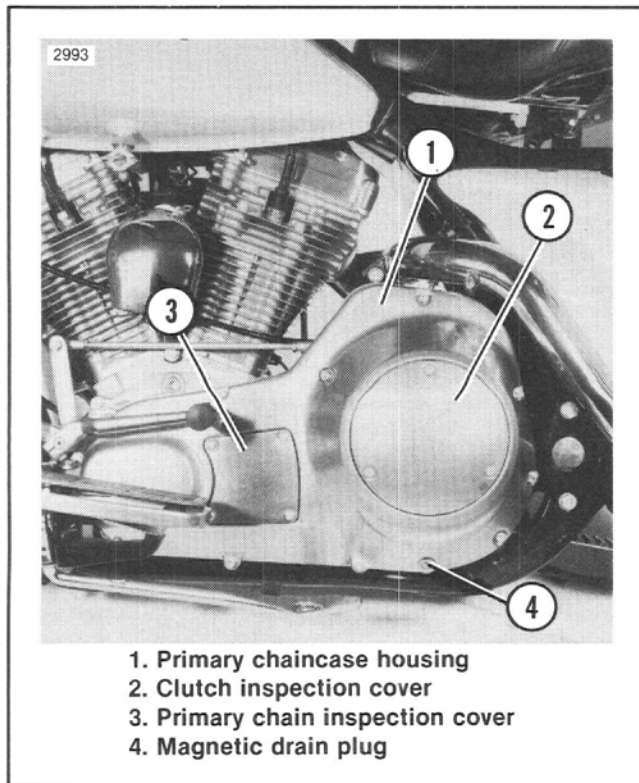

Figure 34. Primary Drive Housing
2. See Figure 34. Remove screws and washers that secure clutch inspection cover.
See Figure 34. The primary chaincase magnetic drain plug is located at bottom of the primary housing at the rear. Unscrew plug and remove foreign material from end of plug. This should be done when primary chaincase lubricant is changed initially at 500 miles and every 5000 miles thereafter.